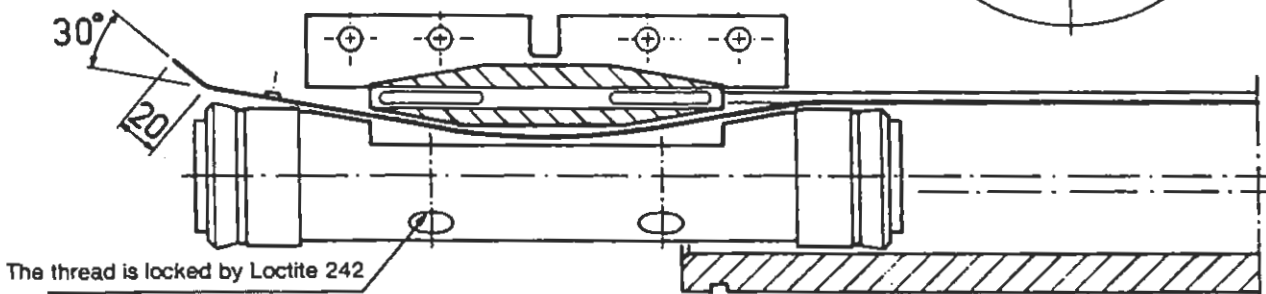

Fig. 2.
1. Check that the bearing strips (18) are fitted on the piston (17).
2. Lubricate the surfaces where inner and outer band runs. Lubricate the piston seals (19). Apply as much grease as possible between seal and support ring. Lubricate the cushion seals generous.
3. Insert one end of the inner band (2) in one end of the piston as shown in Fig. 2, this action can be easily accomplished by employing a guide tool (a short section of inner seal). An alternate method
is to bend inner band as shown in Fig. 2. Important note: The bend must not be beyond the rivet.